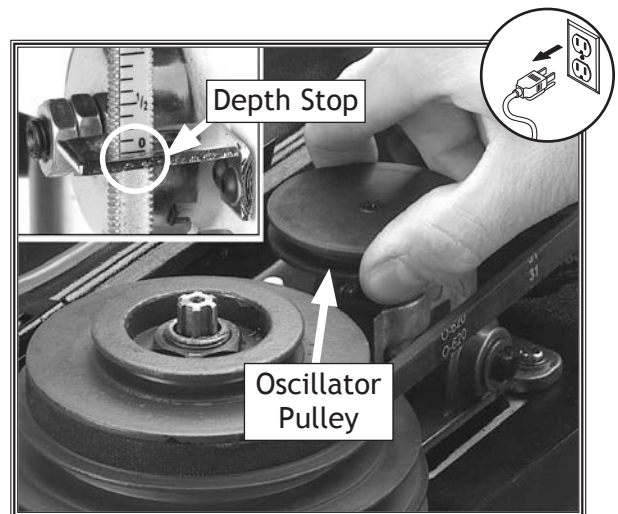

Figure 40. Retracting the oscillator for drilling.
3. Rotate the oscillator pulley (see **Figure 40**) until the depth stop reads "0" (see **Figure 40**), then close pulley cover.